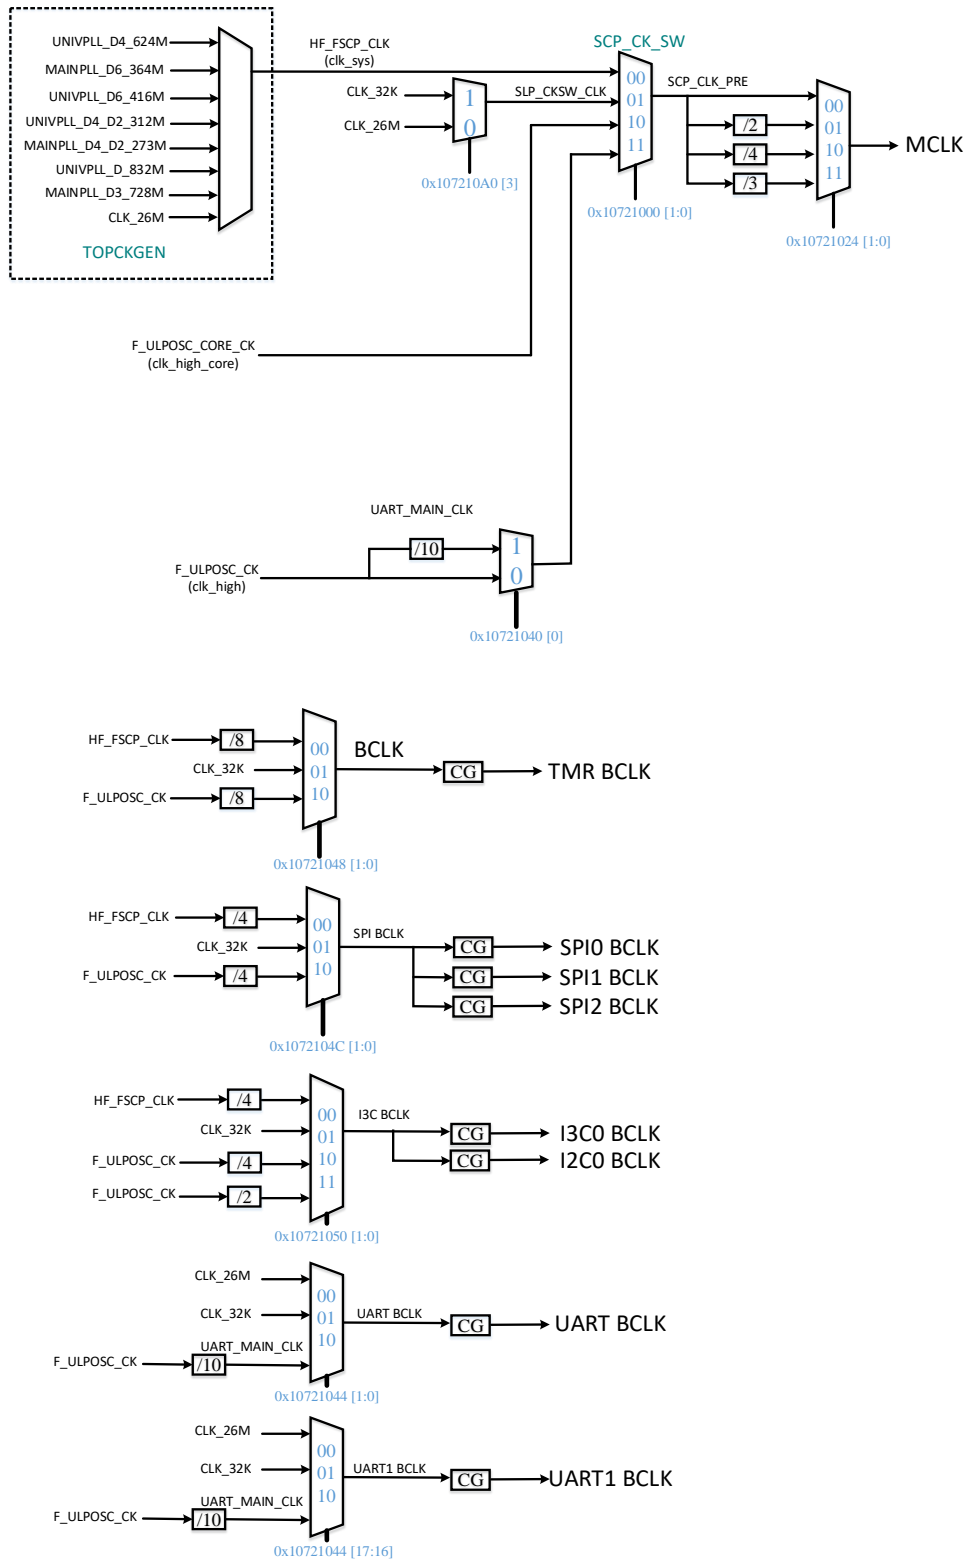

Figure 3-2 SCP clock structure
The clock source of the SCP sub-system is provided by HF_FSCP_CK, CLK_32K, CLK_26M or CLK_ULPOSC (the four clocks are configured by the CLK_SW_SEL control register CR setting. Bus, RV55 and IP bus interface clock are controlled by the divider selection (MUX) control register and Clock Gating (CG) control register. The SCP clock structure is shown in Figure 3-2.
In order to comply with the low-speed IO protocol, the peripherals need to operate at the special clock period (I2C bclk, I3C bclk, SPI bclk, UART bclk). The clock divider selection control register and the Clock Gating (CG) control register of low-speed peripherals and IO are shown in Figure 3-2.